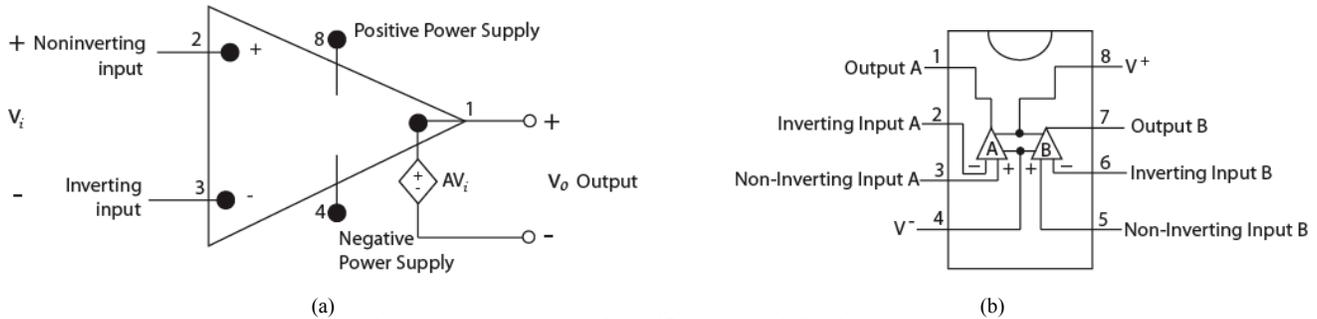

Figure 5. LF353 operational amplifier: (a) Model, (b) Pins on package.
Fig. 5(a) shows a symbolic representation of an op-amp. The output of the op-amp acts like a dependent voltage source whose output voltage depends on the voltage drop across its input terminals. This means that $v_o = Av_i$ where v_i is the difference between the voltages at the + and - terminals, and A is some multiplication factor that we call the "gain" of the op-amp.
The LF353 op-amp we will use in this experiment is packaged as an integrated circuit (IC) in an 8-pin package and is shown in Fig. 5(b). The power-supply connections are the source of power the op-amp uses to create v_o , and we may think of the op-amp as routing either the positive or negative power-supply to the output, v_o . It is important to use the correct pins when wiring power to the op-amp, as incorrect wiring may cause the op-amp to be damaged.
As shown in Fig. 5(b), there are two op-amps in the LF353. To indicate which end is which, the IC package is shown with a small notch at the top. This notch is also on the actual plastic package and shows you which is the top end of the chip. The pins are numbered counterclockwise starting from the upper left, (looking down on the top of the chip). Note that this convention is the same for all chips. Figure 5(b) shows which pins are the power, ground, input, and output for the op-amp. Figure 5(a) only shows the model for one of these two op-amps. You will use the second op-amp in the chip to build a second pre-amp later on.
Build the two identical pre-amp circuits on your protoboard using one LF353 op-amp integrated circuit. (The LF353 contains two op-amps in an 8-pin dual-in-line package.) See Fig. 5(b) or <http://www.national.com/ds/LF/LF353.pdf> for the pin numbers of the op-amp.